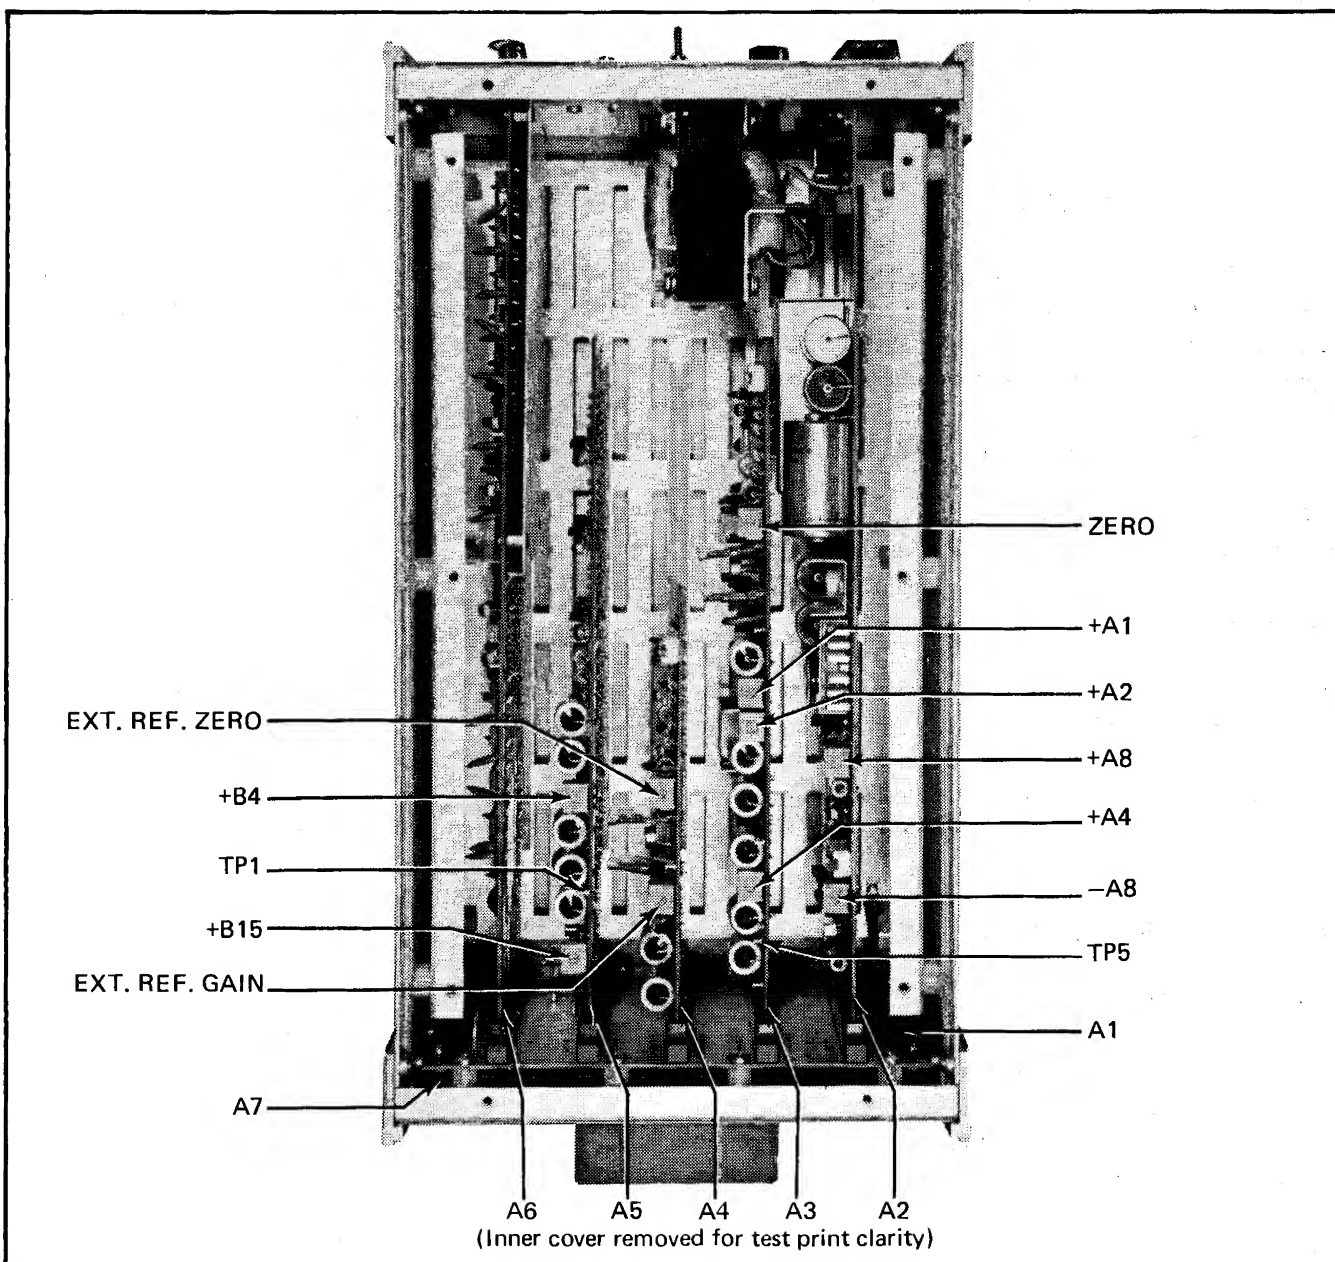

Figure 4-1. ASSEMBLY, ADJUSTMENT, AND TEST POINT LOCATIONS
- Remove the inner guard cover. Access is now provided for removal of the A3 through A4 pcb assemblies shown in Figure 4-1.
4-14. The power source should be calibrated every 90 days or whenever repairs have been made. Recommended test equipment is listed in Table 4-1. If the recommended equipment is not available, substitute equipment having equivalent specifications can be used. Assembly and adjustment locations are shown in Figure 4-1.